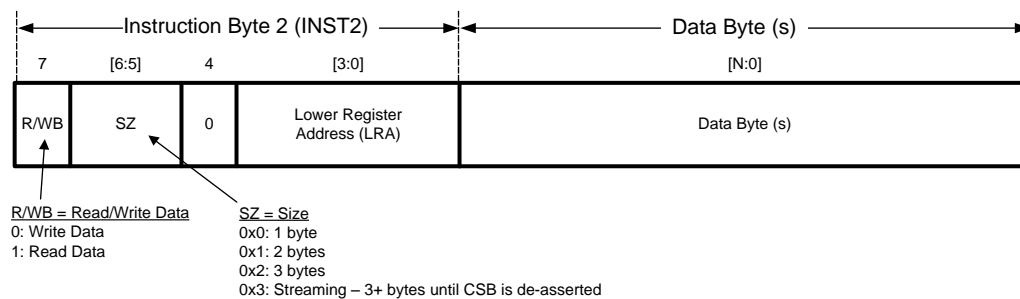

Figure 47. Register Read/Write Protocol
Figure 47 shows the protocol how to write to or read from a register.
To stream, write 0x3 to INST2's SZ bits as seen in Figure 47. To select the stream type, program the SPI_STREAMCN: STRM_TYPE bit. The STRM_RANGE can also be programmed in the same register.
8. Follow the register read/write protocol (Figure 47) to capture ADC_DOUT from CH0.